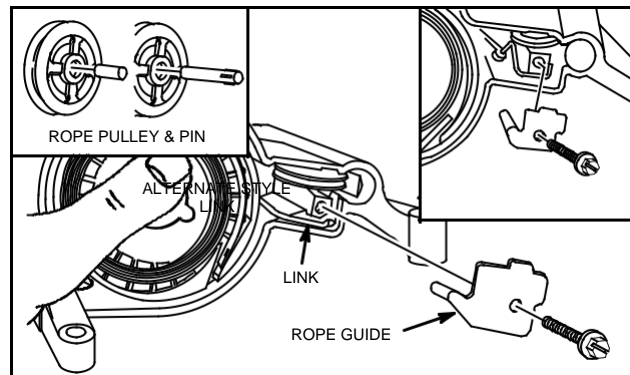

Fig. 620 – REMOVING ROPE GUIDE
7. Remove rope guide and note position of link before removing assembly from housing, Fig. 620.